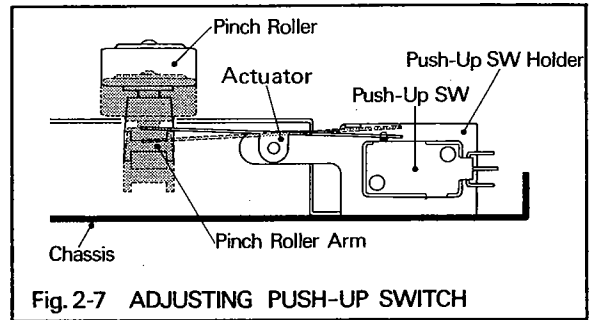

Fig. 2-7 ADJUSTING PUSH-UP SWITCH
1. Depress the PLAY BUTTON (46) and the STOP BUTTON (45) repeatedly, and check that the PUSH-UP SWITCH ACTUATOR moves the PINCH ROLLER up and down properly, activating and de-activating the PINCH ROLLER SOLENOID. (See Figure 2-7.)